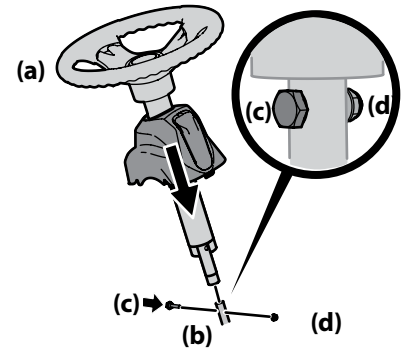

Figure 2-2
2. Remove the shoulder bolt and lock nut from the steering shaft and retain for later steps. See Figure 2-2.
- Lower the steering wheel assembly (a) onto the lower steering shaft (b) and secure with the shoulder bolt (c) and lock nut (d) previously removed. See Figure 2-2.